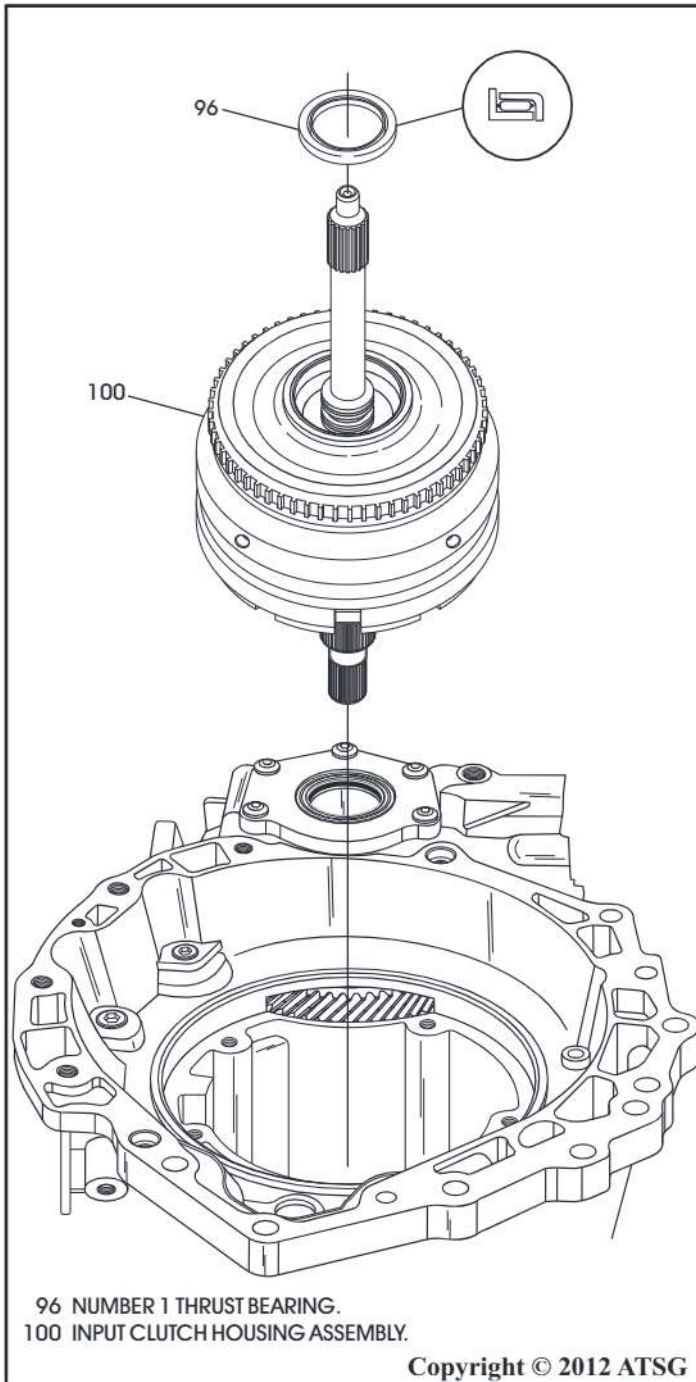

Figure 257
54. Install pre-assembled input housing assembly, as shown in Figure 257, by rotating back and forth until it is fully seated.
55. Install the number 1 thrust bearing over input shaft and into housing in the direction shown in Figure 257.